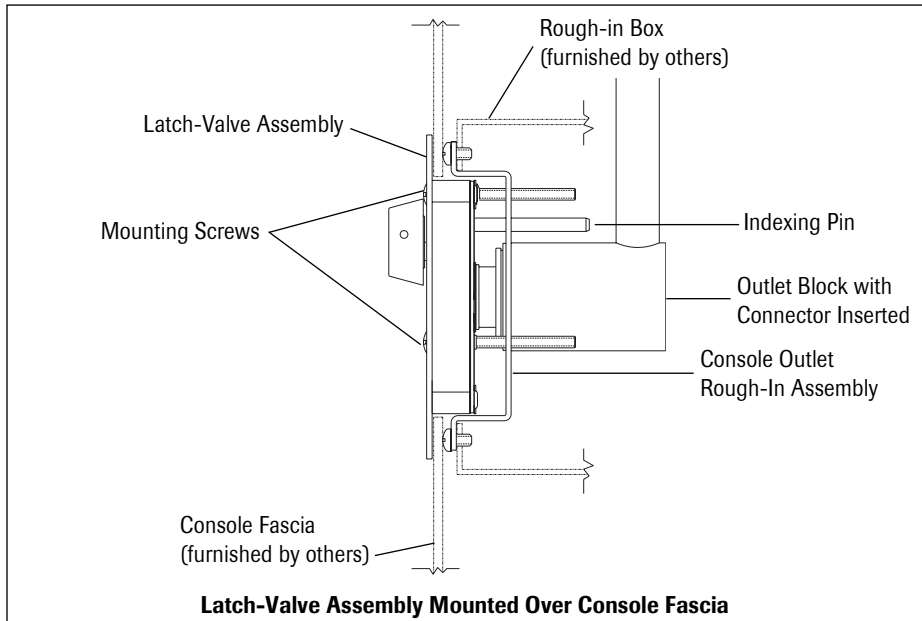

Figure 2
2. Installing the latch-valve assembly over the console fascia (Figure 2):